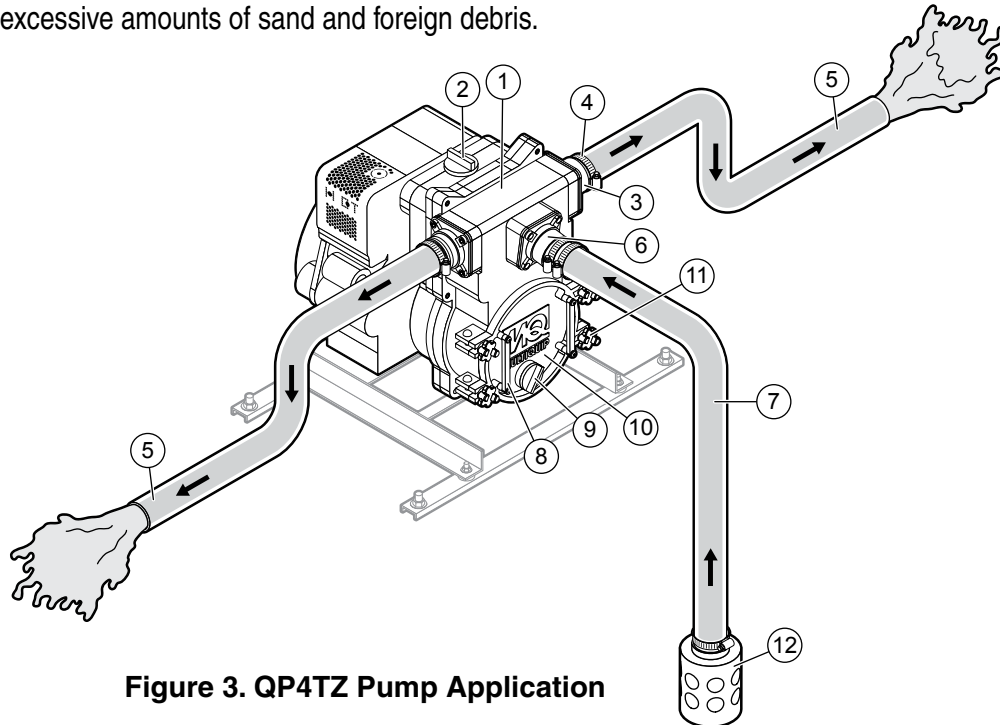

Figure 3. QP4TZ Pump Application
Figure 3 shows a typical application using the QP4TZ trash pump. Please note that this pump is intended for the removal of clean water and water containing some debris and solids. Maximum size of solids should not exceed 1.5 inch (38 mm) in diameter. **DO NOT** set strainer on bottom of water bed. Placing the strainer above the water bed will prevent the pump from drawing in excessive amounts of sand and foreign debris.
3. To prime pump, remove fill cap (Figure 3) and fill pump casing with water. If the pump casing is not filled with water before starting, it will not begin pumping.
1. Check that all hoses are securely attached to the pump. Make certain suction hose (Figure 3) does not have any air leakage. Tighten hose clamps and couplings as required.
4. Check that the discharge hose (Figure 3) is not restricted. Place hose so that it lays as straight as it is possible on the ground. Remove any twists or sharp bends from hose which may block the flow of water.
7. Make sure the suction strainer (Figure 3) is clean and securely attached to the water end of the suction hose. The strainer is designed to protect the pump by preventing large objects from being pulled into the pump.